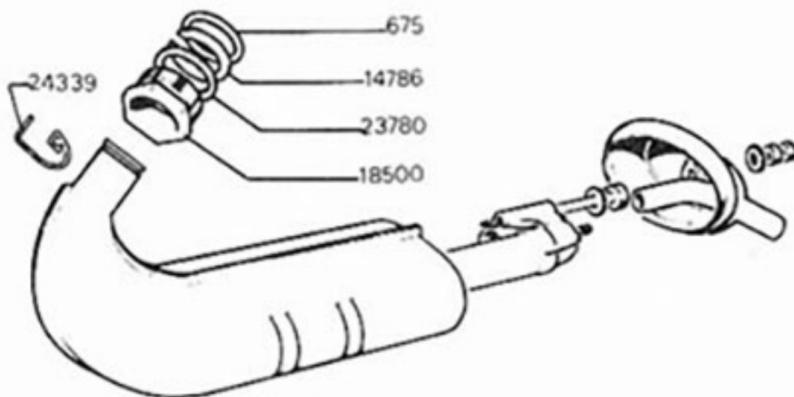

FIGURE 18
- Always install new gaskets whenever exhaust system is dismantled. Aluminium gasket P.N. 23780 located between nut and circlip must be replaced too (Fig. 18).
- Prior installation of exhaust system securing nuts always coat threads with Loctite Formétanch P.N. 1947 (Fig. 18).